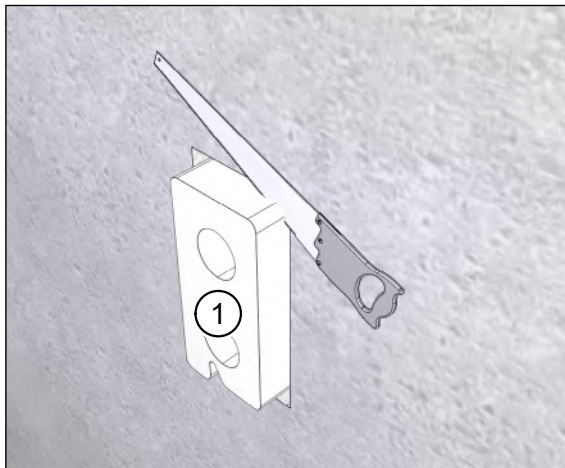
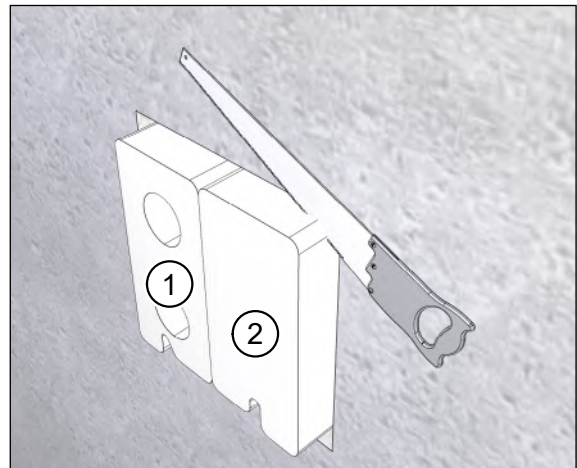

Fig. 22: Aligning the wall box **without** filler piece
Fig. 23: Aligning the wall box **with** filler piece
- ▶ Use a Styrofoam saw to cut off the excess wall box (item 1 in Fig. 22 and Fig. 23) and filler piece, if necessary (item 2 in Fig. 23), so that they are flush with the solid wall or any insulation.